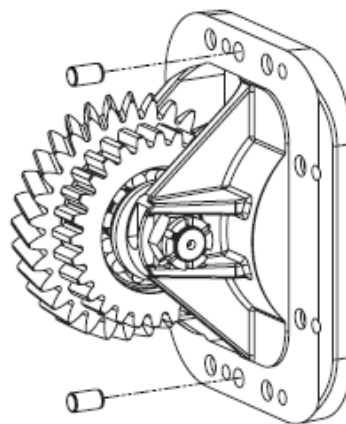

Figure 35: Installation of the dowel pins into the Muncie Bottom PTO Adapter
- Measure the backlash between the adapter and transmission gears. Correct backlash should be 0.006"-0.012" (0.15mm – 0.30mm). Adjust as necessary using a second gasket. A thinner gasket, one that measures 0.010" (0.25mm) thick, is available and is shown in Figure 35 above. Additional gaskets are available through your Muncie Power parts provider.